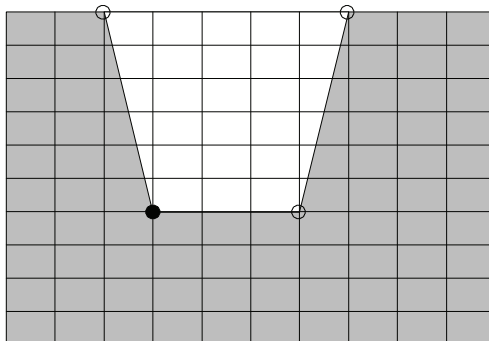

Figure 3-124: Changing the position of Point B
- b. Press the **Set Selected Point X** side key and set the horizontal position of Point B to three divisions from the left edge (see Figure 3-124).